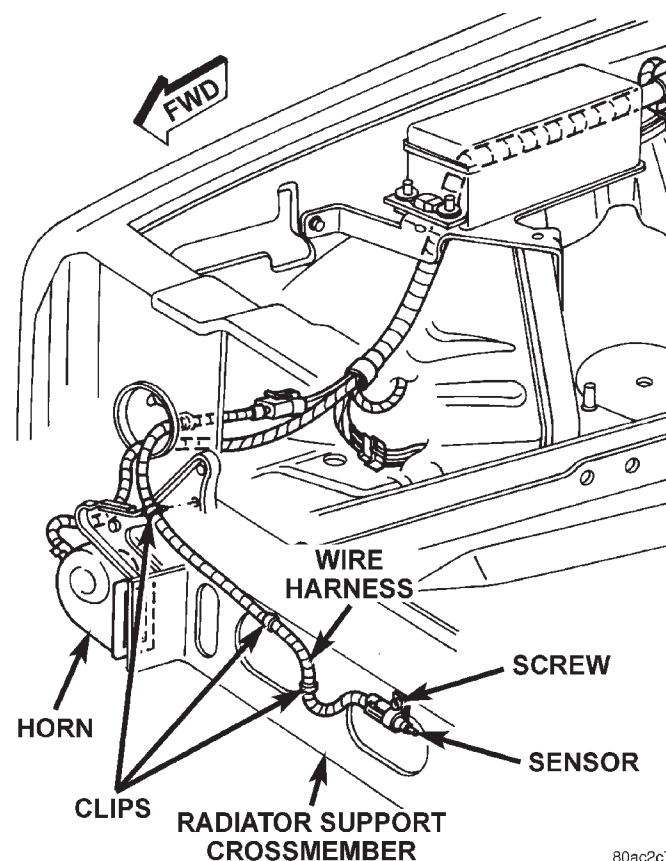

Fig. 7 Ambient Temperature Sensor Remove/Install
(1) Disconnect and isolate the battery negative cable.
(2) Locate the ambient temperature sensor, below the grille and behind the front bumper (Fig. 7).